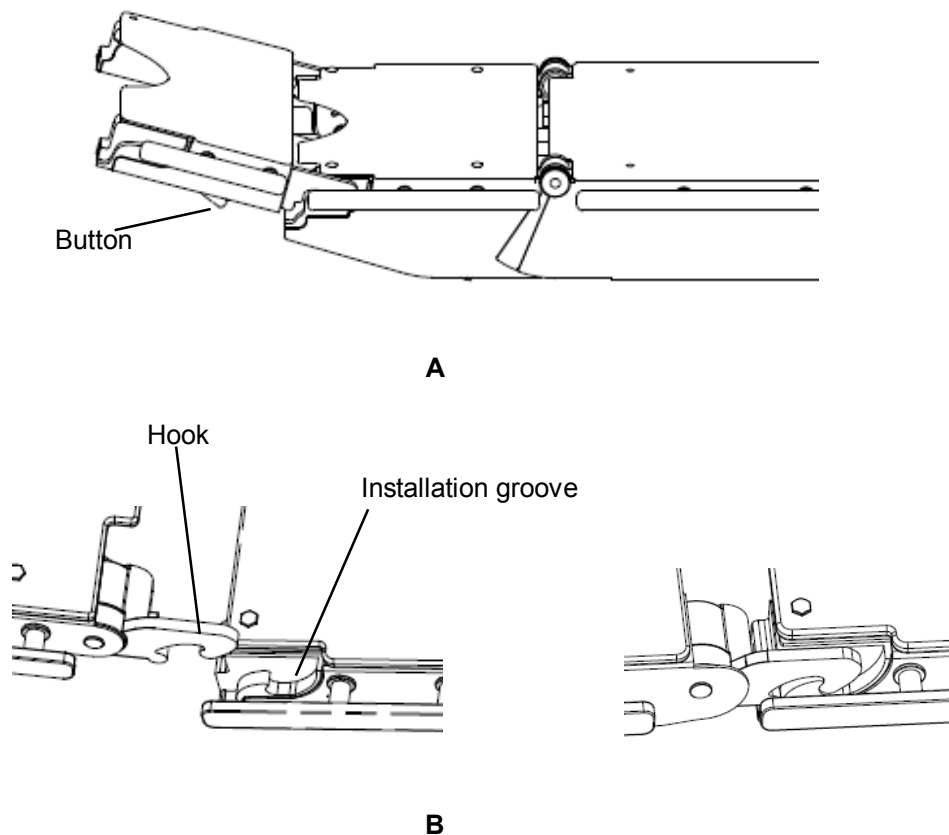

Figure 2-39 Installing the extension plate
2. As Figure 2-39 (A) shows, hang the extension plate onto the installing grooves. The extension plate is reliably installed if you hear a click.
3. Make sure the hooks are hung fully as Figure 2-39 (B) shows.